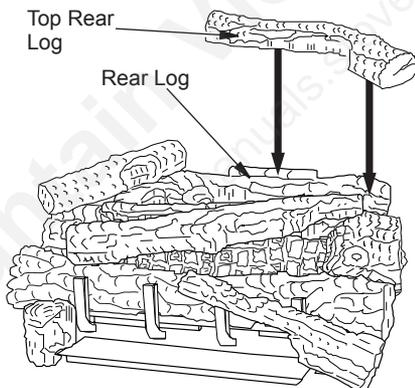

Figure 49 - Installing Top Rear Log
12. Place the top rear log (18" D-071, 24" & 30" D-045) onto the rear log as shown. The rear log has a projection that will fit into the recess area on the bottom of the top rear log (see Figure 49).